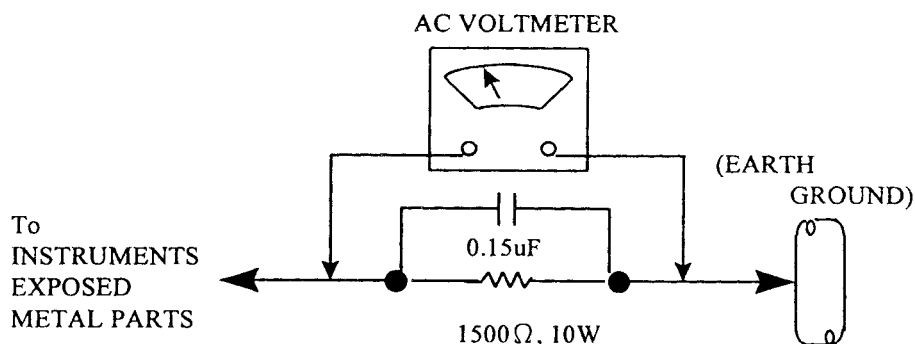

Fig.1
- 4-2 Connect a 1500 ohm, 10 watt resistor, paralleled by a 0.15uF capacitor between each exposed metallic part and a good earth ground(as shown in Fig.1).